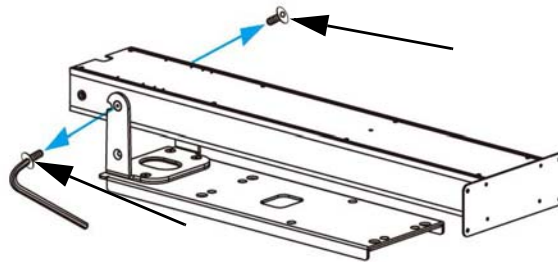

Figure 3. Separate the Mounting Plate and Column
2. Remove the two M6 plate bolts to separate the mounting bracket from the column, see Figure 3.